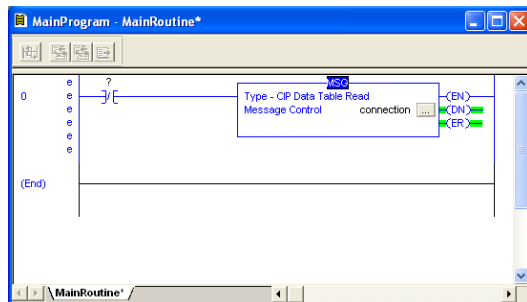

Figure 45: MainRoutine
- e) Click “OK” to close the MSG Configuration dialog. At this stage, MainRoutine should look like Figure 45.